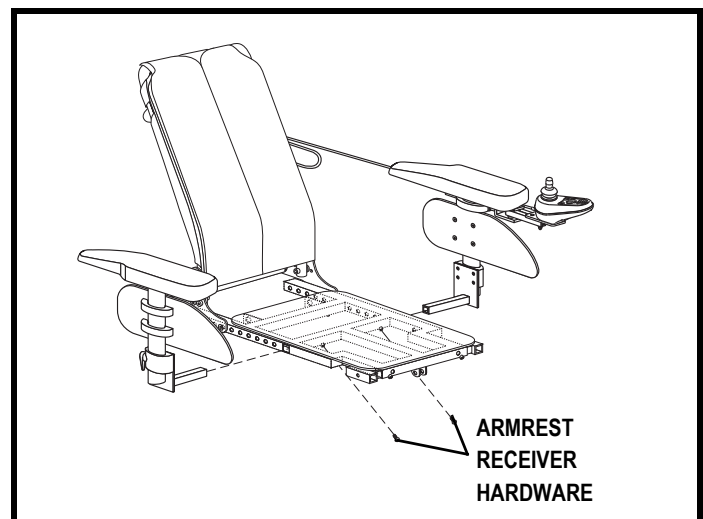

Figure 15. Seat/Armrest Width Adjustment
2. Loosen the armrest receiver hardware. **See figure 15.**